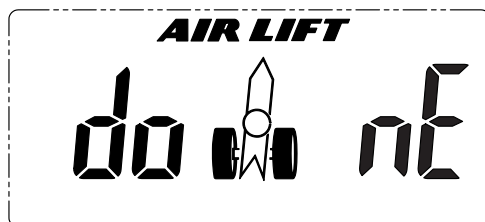
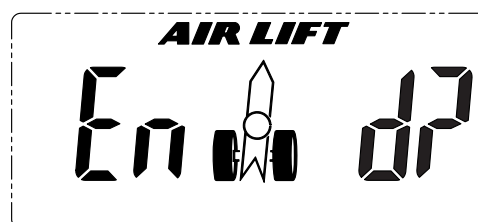

fig. 17
fig. 18
- If the join is successful, after a few seconds the WDC will display "donE" signaling that it and the manifold have been linked (fig. 17). The display will automatically change to "End" (fig. 18).